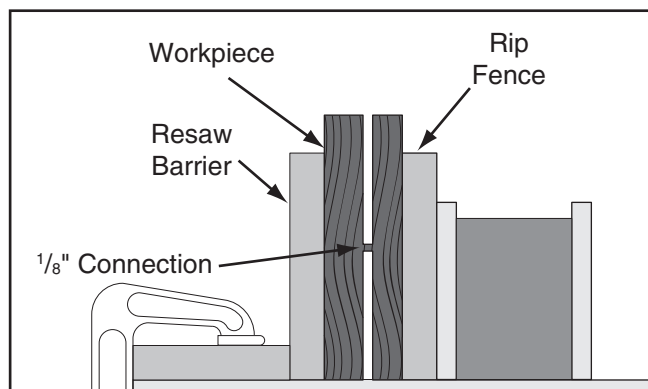

Figure 124. Ideal completed resaw cut.
4. Place workpiece against rip fence and slide resaw barrier against workpiece (see **Figure 124**).
IMPORTANT: The ideal completed resaw cut will leave approximately $\frac{1}{8}$ " connection when the resawing is complete, as shown in **Figure 124**. Leaving a $\frac{1}{8}$ " connection will reduce risk of kickback.